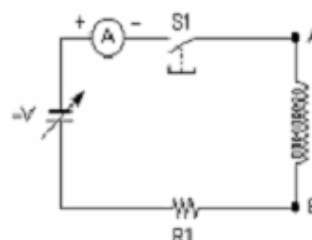

Fig 2.11: Electrical diagram of negative
7. Connect the ammeter between jack 2 and jack 3 (Fig.2.11 and Fig.2.13);